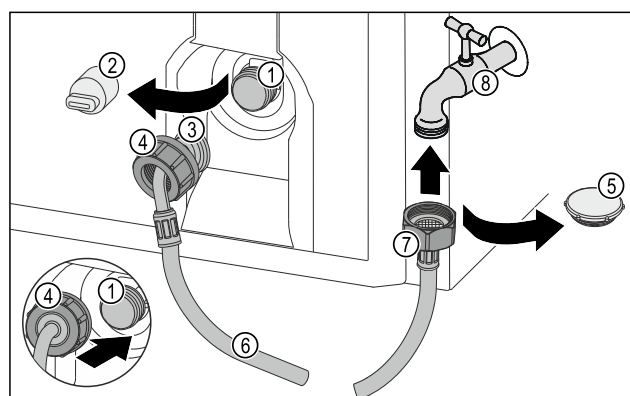

Fig. 22
- Remove the closure cap Fig. 22 (5).
- Place the straight end of the hose Fig. 22 (7) on the tap Fig. 22 (8).
- Tighten the nut at the straight end of the hose Fig. 22 (7) in a clockwise direction.